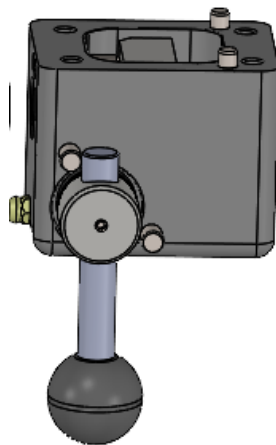

Figure 11: Reinstalling CAM-shaft
11. Insert the CAM-shaft assembly into the housing and rotate the handle to the unlocked position (*Figure 11*).